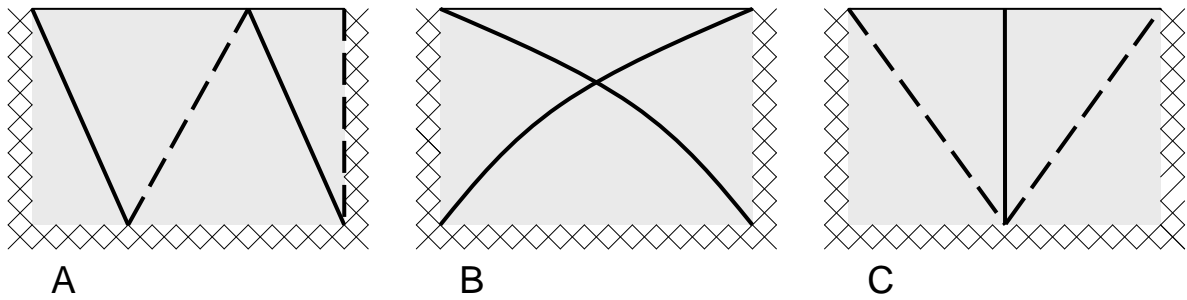

Figure 5. Yield line patterns of problem 2a
- a Consider the yield line patterns of Figure 5. Which of these patterns give kinematically possible mechanisms. (1 point)